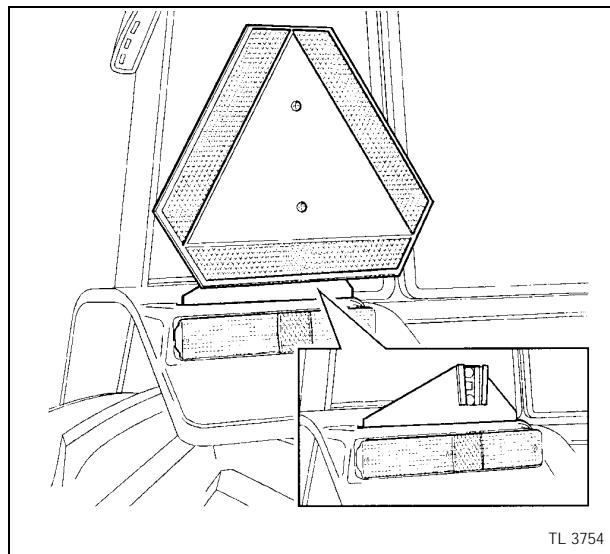
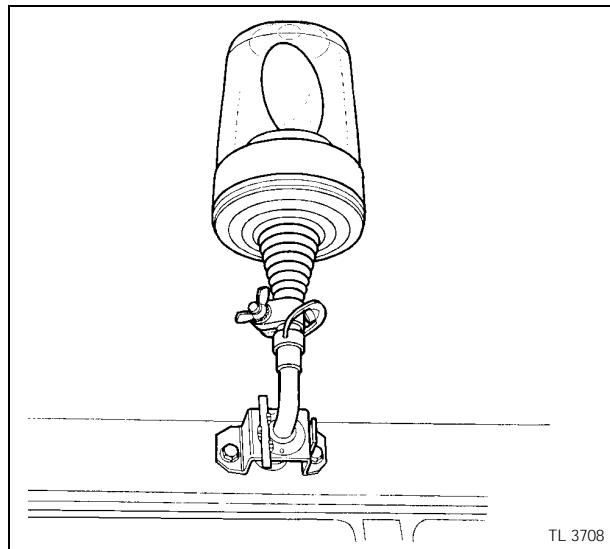

Fig. 25
Fig. 26
- Make sure tractor and equipment are equipped with Slow Moving Vehicle (SMV) (Fig. 25) signs and other marking aids recommended for improved visibility, or beacon (Fig. 26) if the law requires them.
- Use flashing lights or beacon when travelling on roads, day or night, unless prohibited by law (Fig. 26).